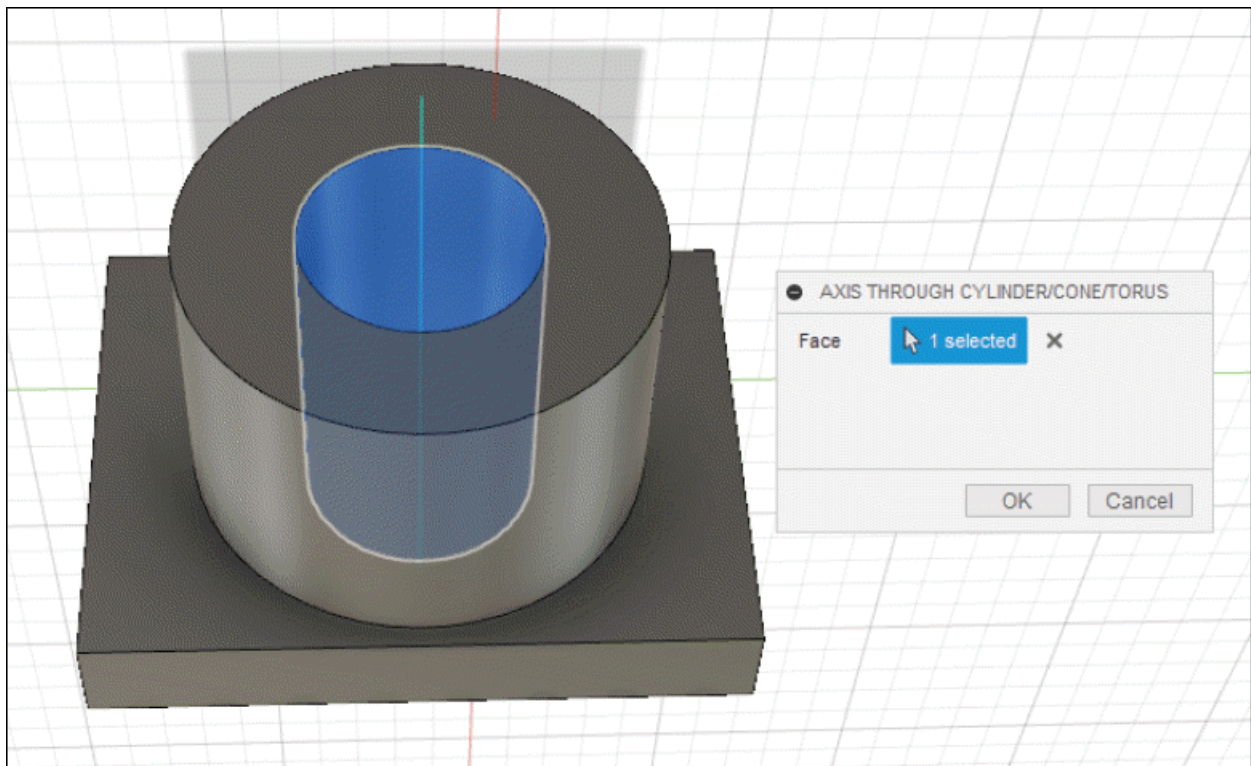

Figure-103. Preview of axis of cylinder
- Click on the round face of cylinder, cone, or torus from model, preview of the axis will be displayed; refer to Figure-103. Click on the **OK** button from the dialog box to create the axis.